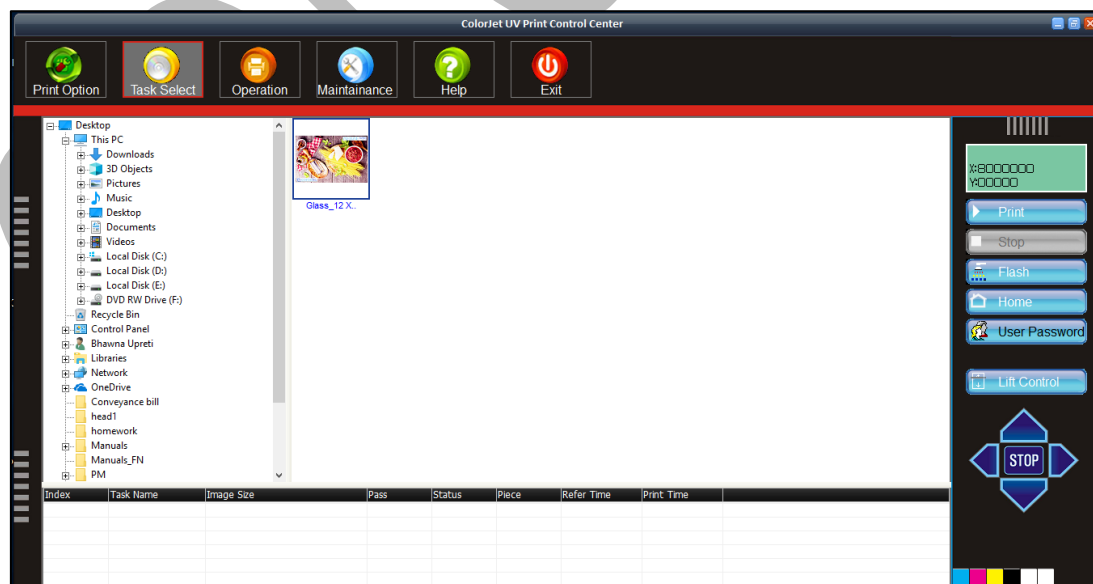

Fig 26: Displaying the Task Select Screen
Step 1: Click on the **Open File** icon on the **Operation** screen (Refer to Fig 26). The **Open** dialog box appears on the screen, as shown below: